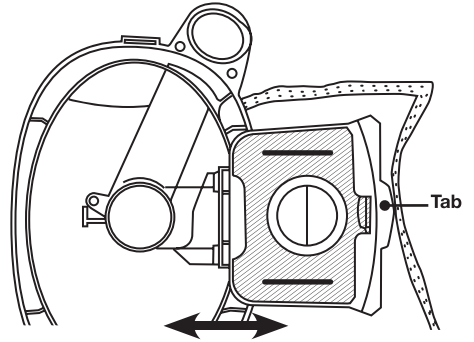

Fig 2
3. Pull the tab on the **HEPA** Dust Bag holder out slightly and flip upwards. (Fig.2)
4. Holding the **HEPA** Dust Bag in your hand, slice it firmly between the slots in the bag holder. (Fig.2)